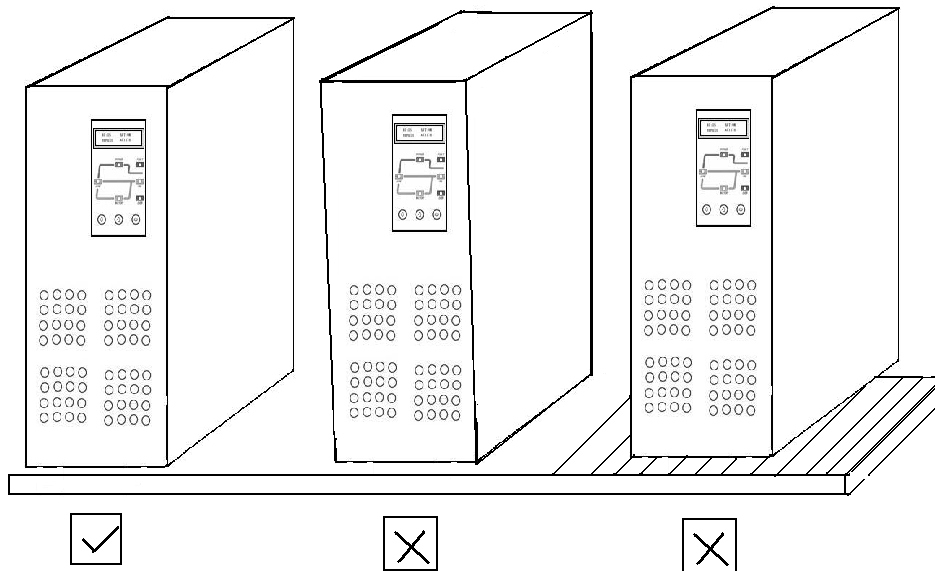

Fig3 Option on place of the UPS
(1) Handle or move
(2) Put by
- a. Not to be tipped Fig3.